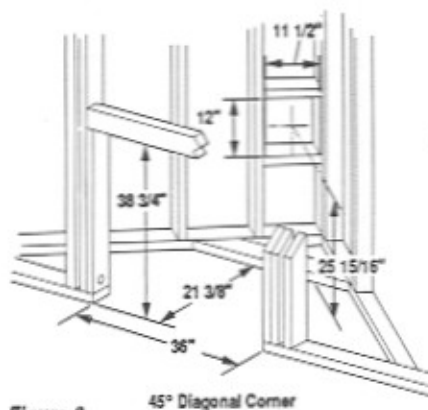

Figure 9
Step 1. To install the appliance in a 45° diagonal corner frame appliance enclosure as illustrated in Figures 9, 10 and 16. If appliance is to be elevated above floor level, a solid continuous platform must be constructed. The header may rest on the top metal spacers but must not be notched to fit around them.